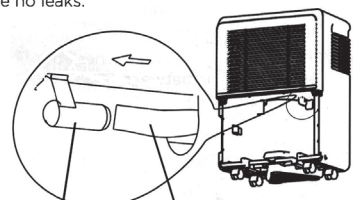

Fig. 7
- Remove the plastic cover from the back drain outlet of the unit and set aside and remove bucket, then insert the drain hose through the drain outlet of the unit and securely press it into the connector on the front of the unit. (See Fig. 7)